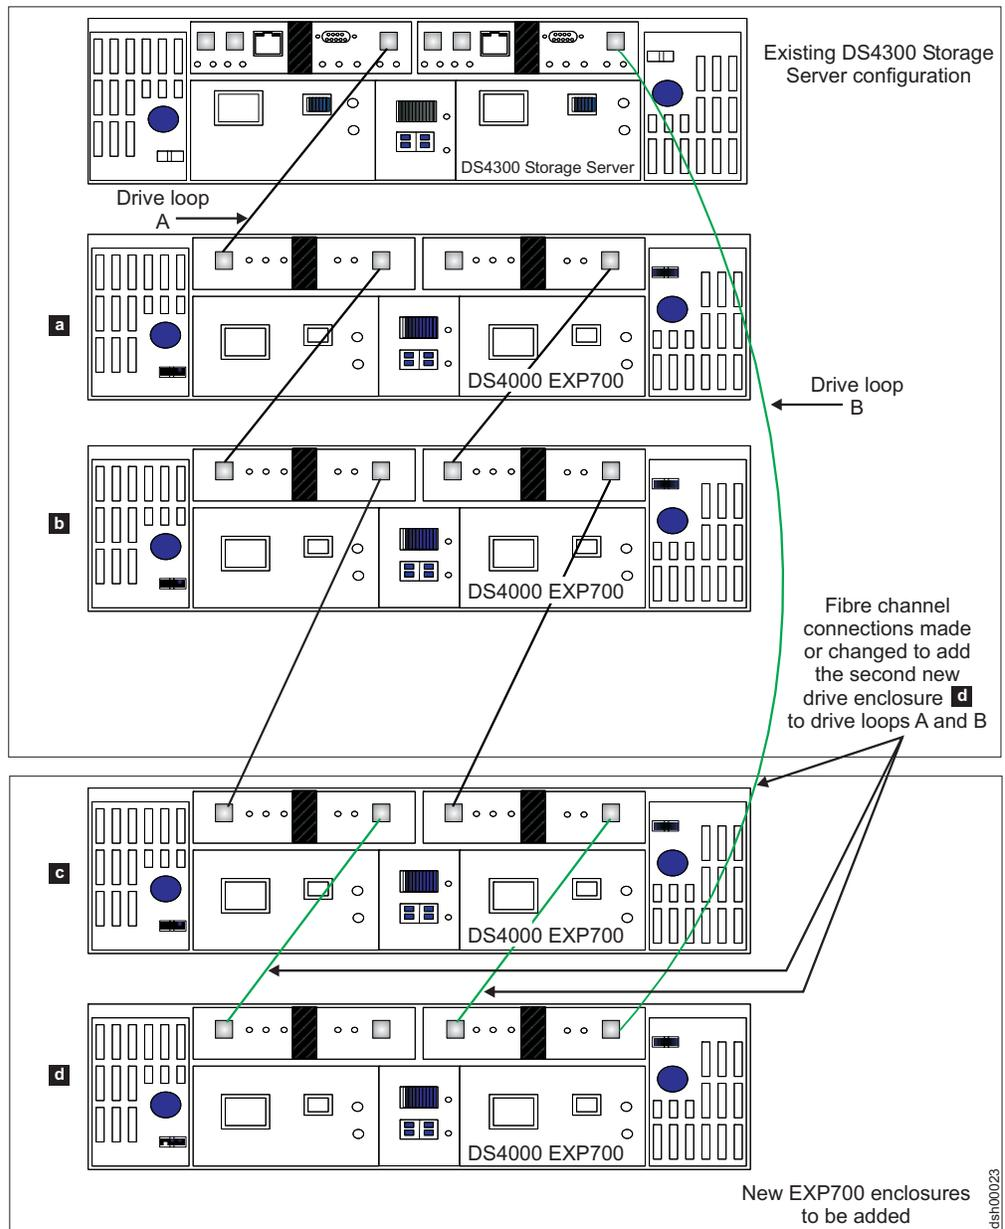

Figure 28. Cabling a second drive enclosure to the end of a functioning drive loop
- If you are connecting additional storage expansion enclosures to the end (bottom) of a drive loop, complete step 2 on page 62 through step 7 on page 63, and step 1 (immediately preceding this step) for each additional storage expansion enclosure that you intend to add. (See Figure 28 on page 72.)